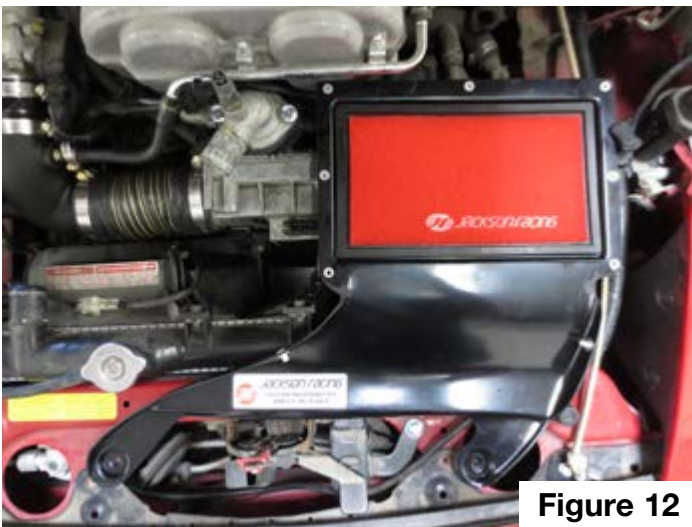

Figure 12
- 24) Place the lower section of the air box into engine bay just behind the radiator fan on the driver's side. Slide the air flow meter into the accordion flex tube and secure it with a hose clamp. Ensure that the accordion flex duct compresses equally on all sides. If the vehicle is equipped with cruise control, route the vacuum line for the actuator under the air box. See Figure 12
- 25) Place the included air filter into the air box with the red side facing up. Push it down into place to ensure that it seals. Next, attach the top of the air box with the included washers and screws. Do not put a screw in the drivers side rear corner of the air box, this will be used to mount the support bracket. See Figure 12